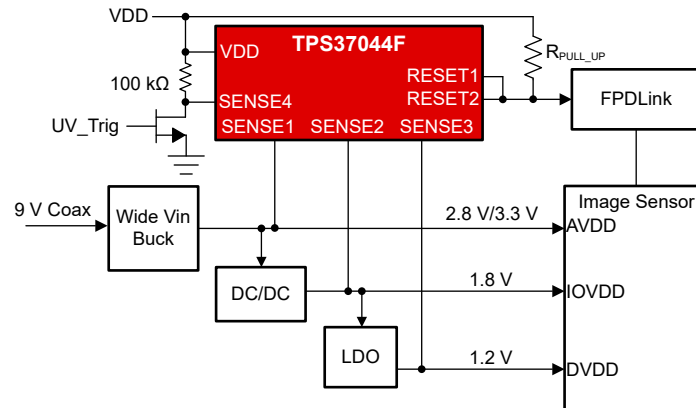

Figure 8-4. TPS37044F Quad-Channel Monitoring With Manual Self-Test Option for Functional Safety
Figure 8-4 displays a self-test scheme where a manual self-test function can be implemented. Any SENSEx pin can be reserved and used to trigger a fault to be observed at the output, thus pre-checking the TPS3704 for fault detection. TPS3704 is a functional safety compliant multichannel supervisor and enables applications such as factory automation and motor drive achieve IEC 61508 requirements and industrial safety integrity levels. This example uses a TPS37044F, configured for separate undervoltage and overvoltage (UV/OV) outputs where the SENSE4 thresholds are set at 5.5 V for OV and 2 V for UV.
Figure 8-4 shows a self-test scheme where a manual self-test function can be implemented. SENSE4 has an overvoltage (OV) threshold that is set at 5.5 V and the undervoltage (UV) threshold set at 2 V. SENSE4 can be connected via a 100-k $\Omega$  resistor to VDD. The self-test setup gives the added benefit of a built-in overvoltage detector for the rail powering the TPS37044F. From a functional safety perspective, a voltage supervisor cannot be considered reliable if the supervisor is operating outside its recommended operated limits.